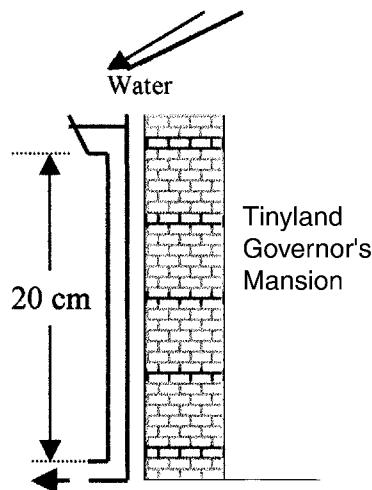

Fig. P6.21
**6.21** In Tinyland, houses are less than a foot high! The rainfall is laminar! The drainpipe in Fig. P6.21 is only 2 mm in diameter. (a) When the gutter is full, what is the rate of draining? (b) The gutter is designed for a sudden rainstorm of up to 5 mm per hour. For this condition, what is the maximum roof area that can be drained successfully? (c) What is  $\text{Re}_d$ ?